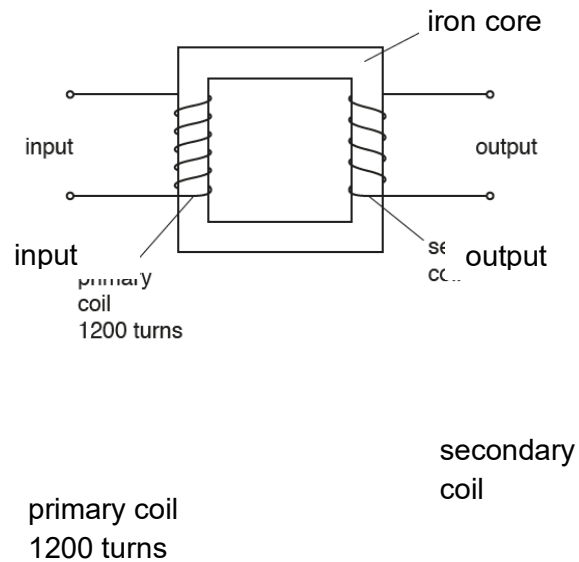

Fig. 6.1
- 6 An ideal transformer is shown in Fig. 6.1.